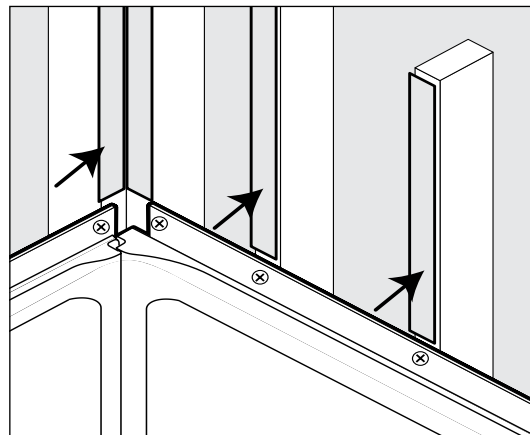

FIGURE 10. Shim studs.
- a. Shim studs with lattice strips or 1/4" luan so that finishing board will overlap nail flanges. (Fig. 10)